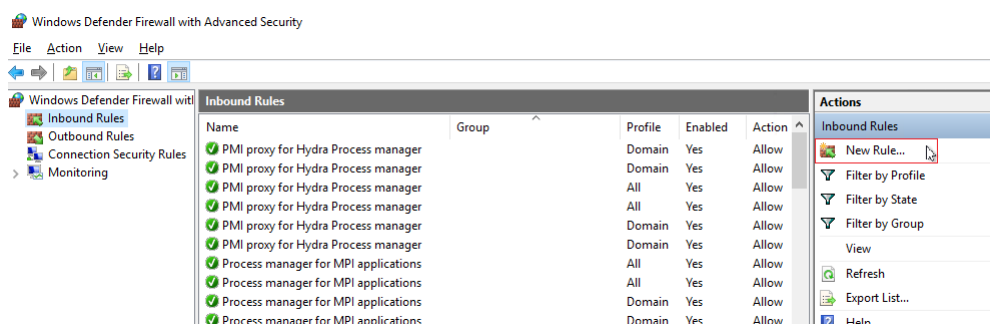

Figure B.1. New firewall rules for incoming messages
1. Open the **Control panel** and then **Windows Defender Firewall with Advanced Security**. The dialog displayed in Figure B.1 will open.